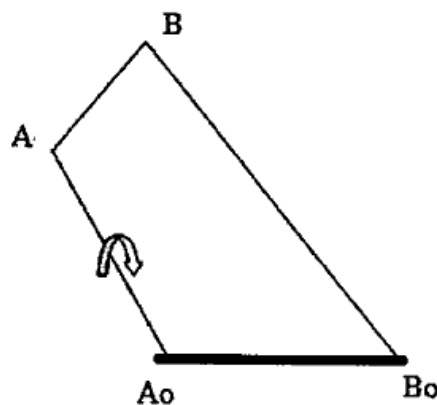

Fig.2
- b. The mechanism shown in Fig.2 has AoBo fixed and is driven by turning AoA. Find out geometrically the maximum and minimum transmission angles. AoBo = 6 cm, AoA = 4 cm, AB = 3 cm and BoB = 8 cm. 6